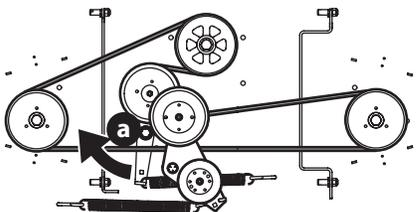

Figure 54
5. Using a 1/2" drive insert the end into the 1/2" square opening in the deck idler assembly (a) and rotate the deck idler assembly (a) clockwise (Figure 54). While holding the deck idler assembly (a), loosen the deck belt from the pulley and slide the belt away from the pulley.
6. Route the new belt (Figure 54). Then reinstall the deck and PTO belt.